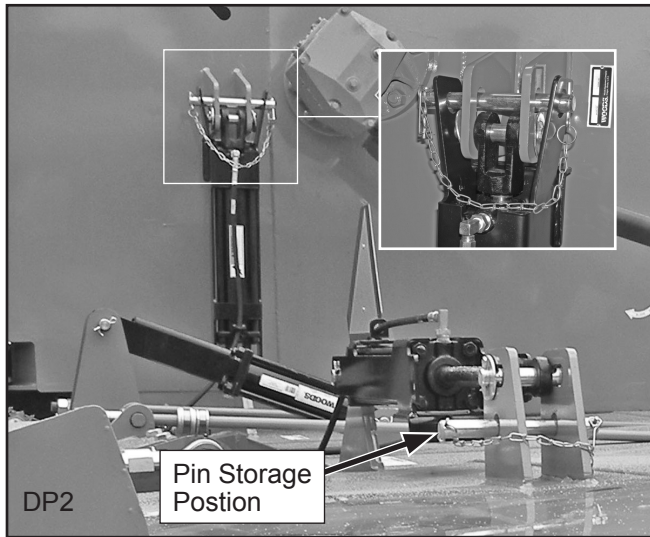

Figure 2. Transport Lock-Up
5. Raise unit with center lift cylinder and extend wing cylinders. Stop tractor and remove transport lock pins from wing stops and transport stop as shown in Figure 2 and Figure 3, page 18.
2. Rotate transport lock into position over cylinder rod (Figure 2).